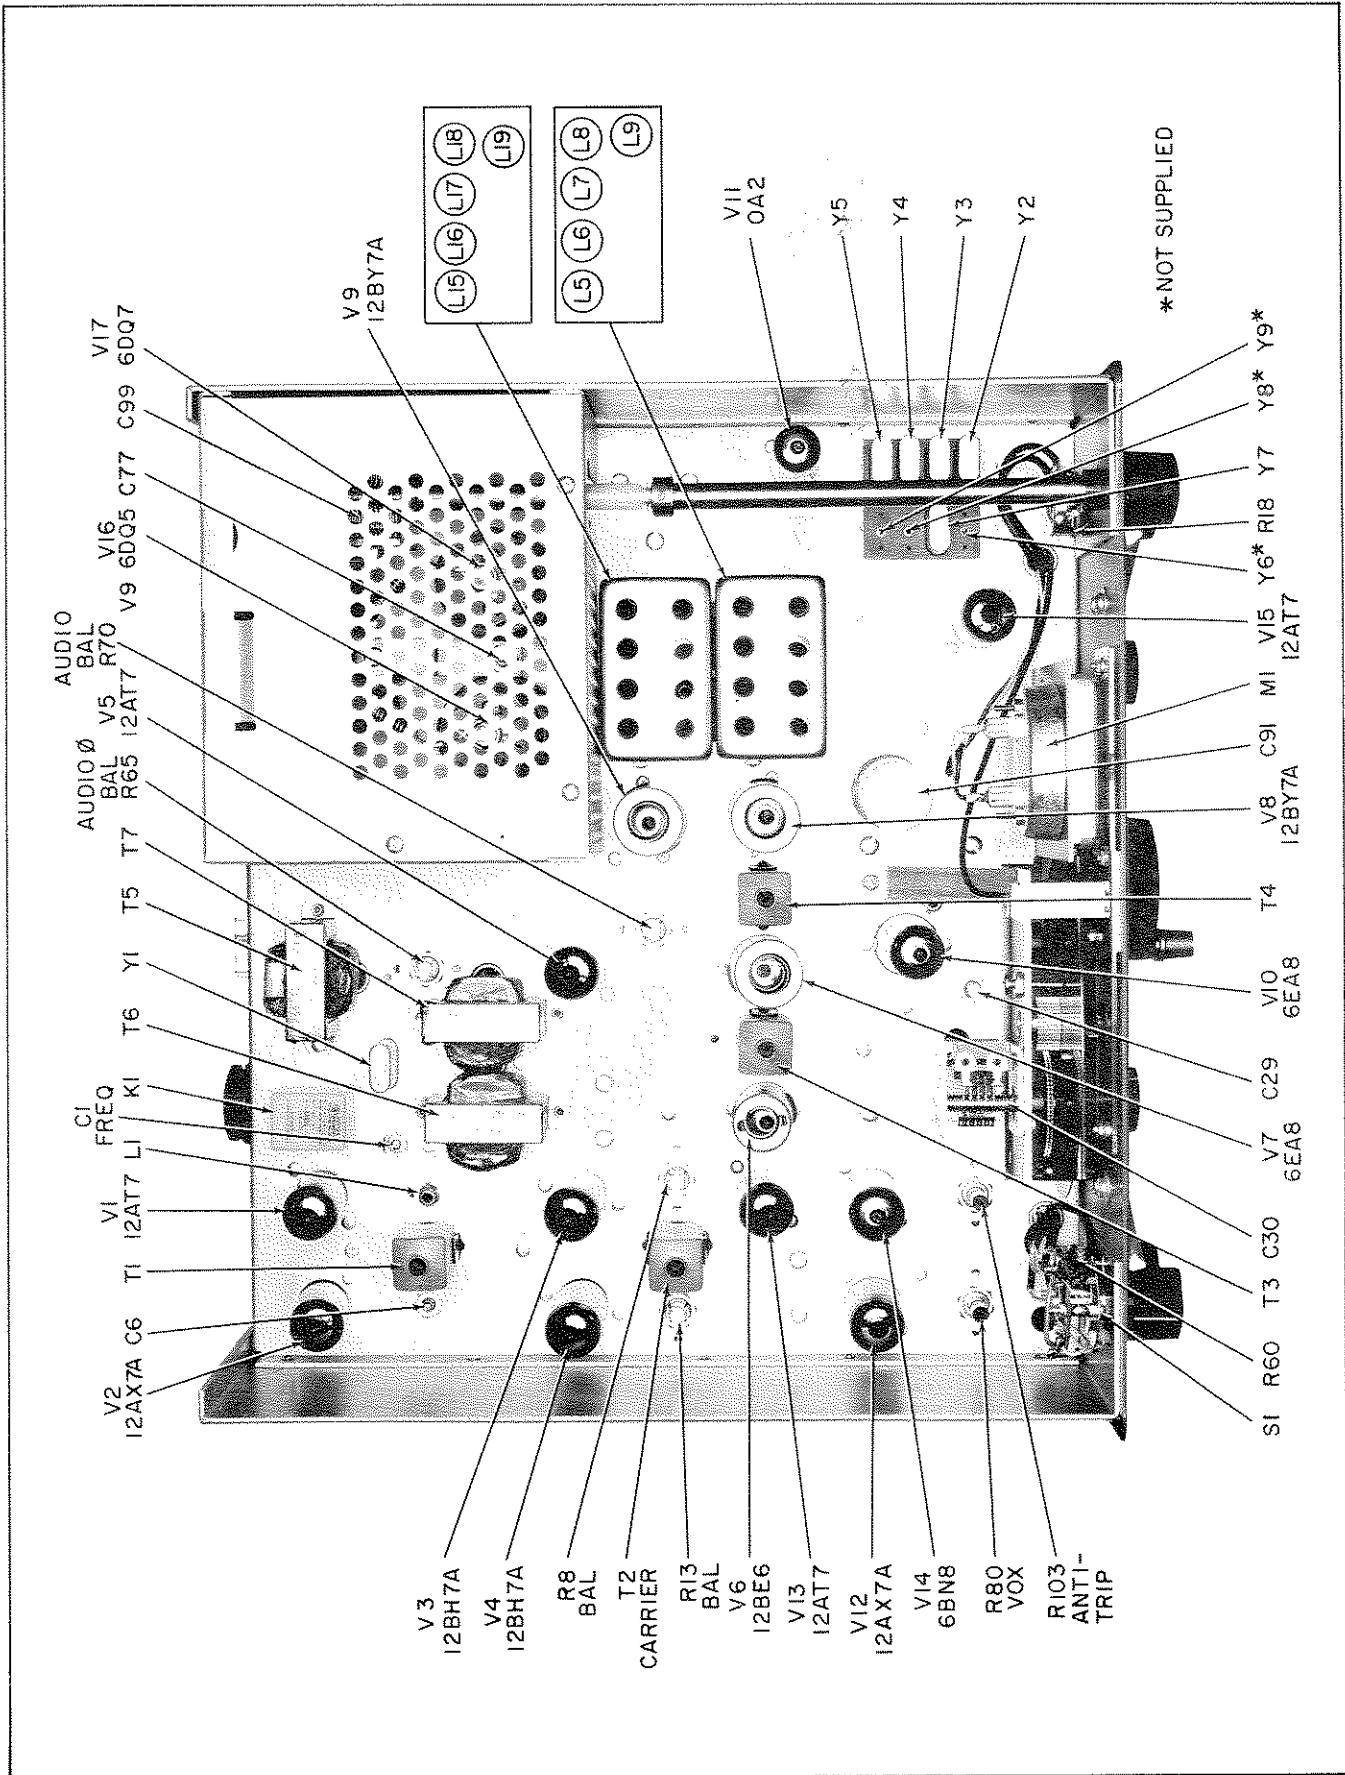
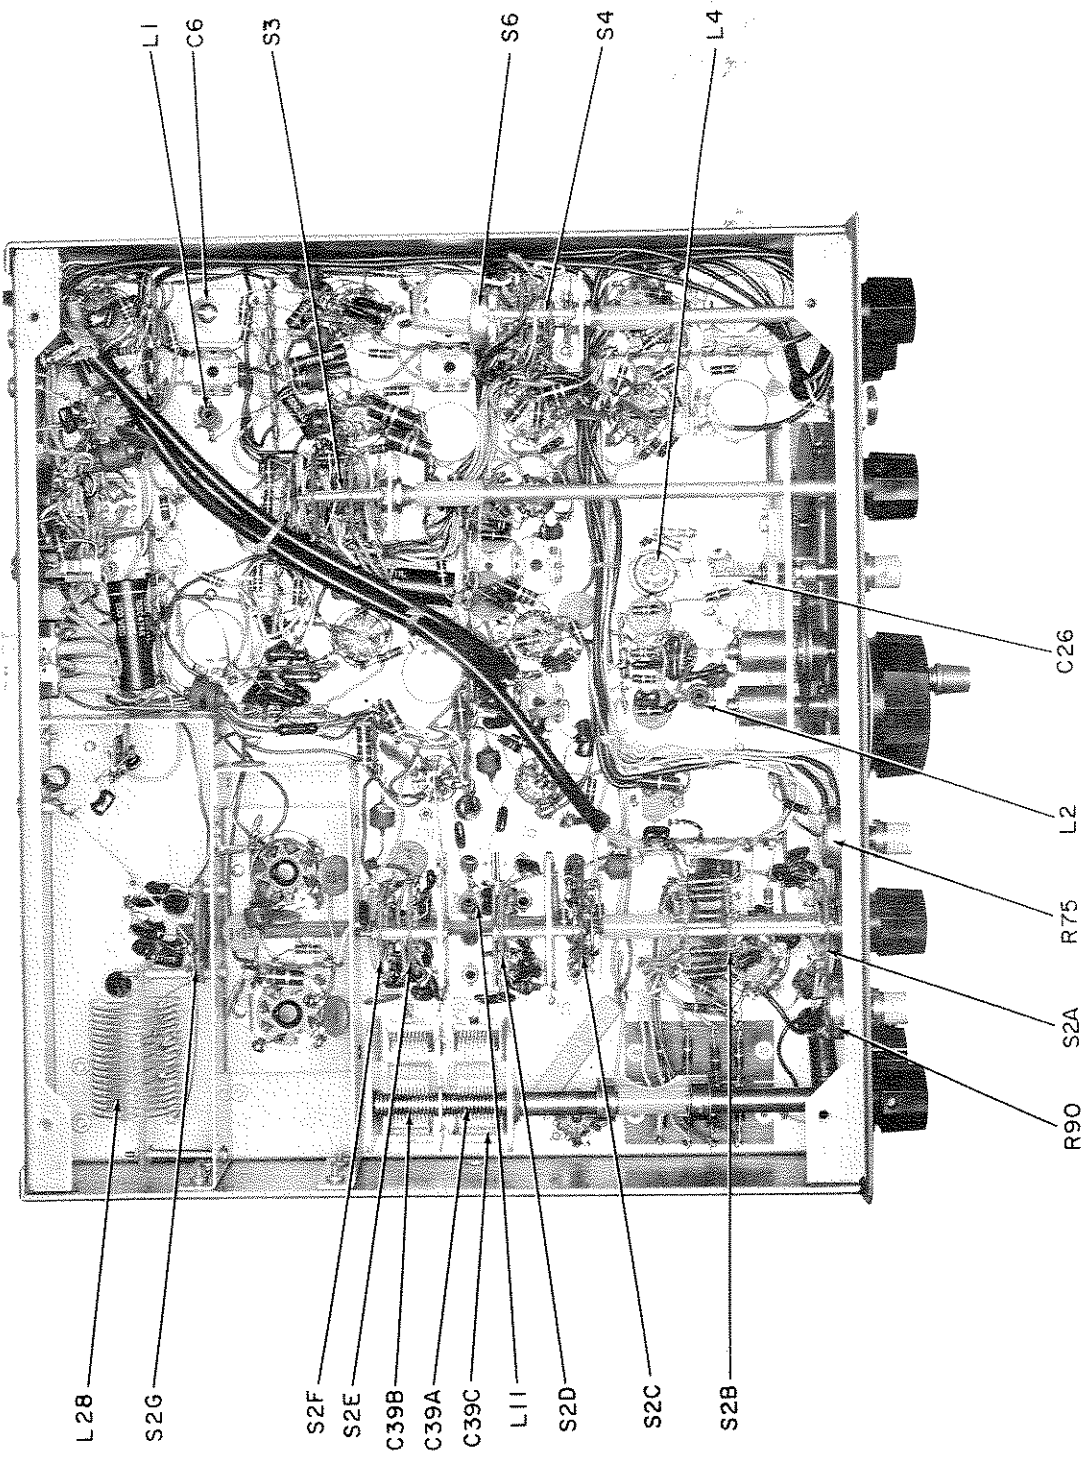

Figure 14. Top Chassis View Showing Component Locations.
Figure 15. Bottom Chassis View, Showing Components.
Do not make any adjustments unless the operation of this transmitter is fully understood and adequate test equipment is available. Refer to figures 14 and 15, the top and bottom views of the transmitter, for the locations of all adjustments.
3. 10-Meter Alignment. - Tune the Signal Generator to 28.0 MC. Set the FINAL TUNING control to the low end of the 10-meter segment (approximately 8 on the inner scale) and the DRIVER TUNING control also to the low end of the 10-meter segment (approximately 8 on the inner scale). Increase the signal generator output level until a small indication is noted on the HT-44 RF output meter. Tune the FINAL TUNING control for maximum output indication. Adjust the cores of coils L5 and L15 (see figure 14 for location) for maximum output, reducing the signal generator output level as required to keep the meter reading at half-scale or less. Set the signal generator to 29.7 MC. Set the FINAL TUNING control to the high end of the 10-meter segment (approximately 9-1/2 on the inner scale) and set the DRIVER TUNING control to the high end of the 10-meter segment (approximately 9-1/2 on the inner scale). Adjust trimmer capacitor (C39C) located on the side of C39A (see figure 15) for maximum output while slightly rocking the DRIVER TUNING control. Return the signal generator to 28.0 MC and repeat the above alignment until tracking is accomplished. (NOTE: Trimmer C39C should not be readjusted on the other bands.)
4. 15-Meter Alignment. - Tune the signal generator to 21.0 MC and set the FINAL TUNING control to the low end of the 15-meter segment (approximately 7-1/2 on inner scale). Set the DRIVER TUNING to the low end of the 15-meter segment (approximately 7 on the inner scale). Increase the signal generator output level until a small indication is noted on the RF output meter and adjust the FINAL TUNING control for maximum output, reducing the signal generator output level as required to keep the meter at half-scale or less. Adjust the cores of coils L6 and L16 (see figure 14 for location) for maximum output, reducing the signal generator output as required to keep the meter at half-scale or less.
7. 6.5-MC Trap Adjustment. - While on the 40-meter band, set the signal generator to 7.0 MC and adjust the FINAL TUNING and DRIVER TUNING controls for maximum output. Without changing the FINAL TUNING or DRIVER TUNING, reset the signal generator to 6.5 MC and increase the signal generator output level until a small indication is noted on the RF output meter. Adjust the 6.5-MC trap core, L11 (see figure 15 for location) for minimum output, increasing the signal generator output as required. A slight readjustment of L8 may be required after this adjustment.
Proceed as follows: Set the CAL. ADJ. trimmer to mid-range (dot up). Set the OPERATION switch to CAL. Set the BAND SELECTOR to 3.5 MC (80-meter). Tune the receiver to 3.5 MC on the 100-KC marker signal (BFO off). Set the HT-44 TUNING CONTROL (dial) to the red 500 (3.5 MC). Carefully adjust trimmer C29 for zero beat (see figure 14 for location).
If the dial error progressively increases in the same direction with the high-frequency end running out more than 3000 CPS, at this end, both L4 and C29 should be adjusted. Proceed as follows: Set the TUNING dial to 4.0 MC (red 1000) and the Receiver to 4.0 MC. Adjust the slug of L4 (see figure 15 for location) to zero beat. Set the TUNING dial to 3.5 MC (red 500), the receiver to 3.5 MC, and adjust C29 for zero beat. Repeat the adjustments at 4.0 MC and 3.5 MC until both points are on frequency.
Remove V15 (12AT7) from its socket to disable the heterodyne oscillator signal. Connect the probe of the RF voltmeter to the grid of the Second Mixer (pin 2 of V8). Set the FUNCTION switch to CW and the OPERATION switch to MOX. Set the BAND SELECTOR to any 10-meter segment. Set the TUNING control dial to 250 and advance the RF LEVEL control until a small indication is noted on the RF voltmeter. Adjust the core of the VFO output coil (L2, See figure 15) for maximum reading. Set the TUNING control to 450 on the dial. Advance the RF LEVEL control until approximately 0.5 volt RMS is indicated on the RF voltmeter (HP 410 B or equal). Adjust top and bottom cores of IF transformers T3 and T4 for maximum voltmeter indication, keeping the level below 1 volt to prevent overload and false settings. After the transformers have been adjusted as described, increase the RF LEVEL control until 1 volt is indicated on the voltmeter. Tune the VFO (TUNING) across its range (0 to 500) while watching the voltmeter. The voltmeter should read between 0.8 and 1.0 volt over the entire range of the dial (0 to 500). After completion of this alignment, be certain to replace V15 (12AT7) in its socket.
Adjust the RF LEVEL control for about 60 volts RMS output (60 on the HT-44 RF output meter). Carefully tune the FINAL TUNING control and observe the plate current dip and the output voltage peak. If both occur at the same setting, the amplifier is neutralized. If both do not occur together, adjust the neutralizing capacitor, C77 (see figure 14), in small increments (1/4 to 1/2 turn) until neutralization is accomplished.
When the HT-44 is used as an independent transmitter/exciter, there is normally no need for adjustment of the carrier frequency trimmer C1 (see figure 14 for location). However, when the HT-44 is to be used in conjunction with an SX-117 receiver as a transceiver, the carrier frequency trimmer C1 must be set correctly. For this procedure, see Section VII, TRANSCEIVE (SLAVE) OPERATION.